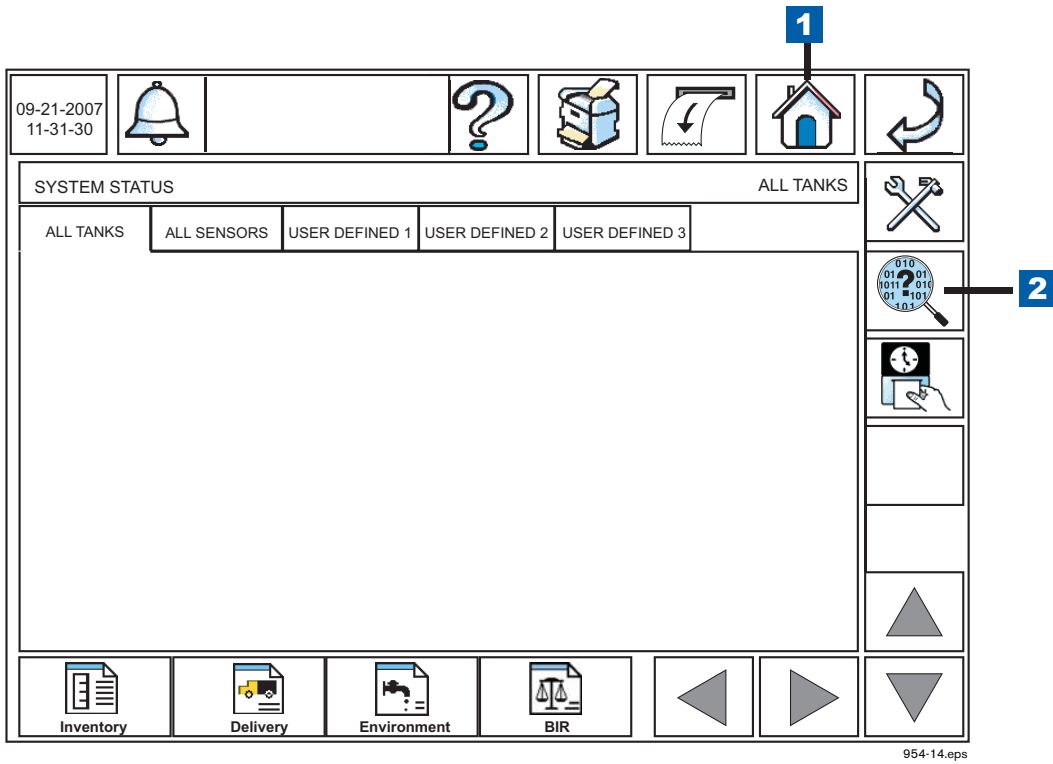

Figure 3. Accessing Diagnostic Main Screen from the Home Screen
- Figure 3. Accessing Diagnostic Main Screen from the Home Screen 6
5. Touch the Diagnostics button on the Home Screen (see item 2 in Figure 3).
LEGEND FOR NUMBERED BOX IN Figure 3